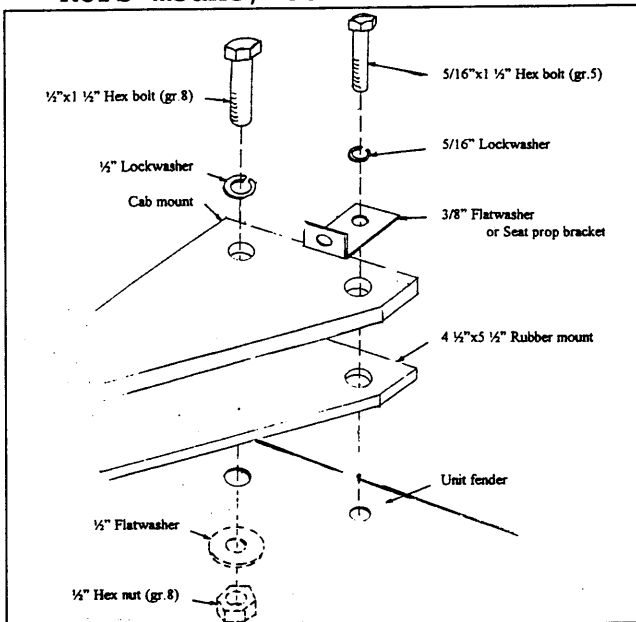

Figure 1
2. Tilt the seat plate forward. Locate the two-hole bolt pattern in each of the side fenders, directly in front of the firewall. Position each 4 ½"x5 ½" rubber mount (1) over one of the two-hole bolt patterns, with the holes to the inside.
3. **NOW YOU ARE READY TO MOUNT THE ROPS.** Lift the ROPS, using the lift bolts located near the roof, directly above the unit. Slowly, lower the ROPS until the rear ROPS mounts rest solidly on the rubber mounts. Bolt the ROPS loosely to the chassis as shown in figure 1. REMEMBER to reattach the seat plate prop, through the rear ROPS mount, to the chassis.